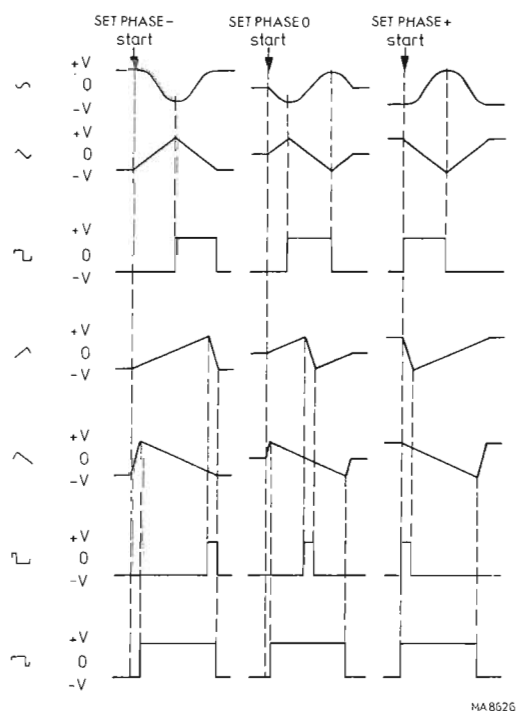

Fig. 5. Starting points for the various signals in the "SINGLE SHOT" mode
The generator is provided with a control device which can produce single periods of a signal with set frequency and signal form. The single shot capability is operative for all signal forms and in the frequency ranges 1 m ... 1k. The starting point can be set continuously between the peak values of the signal (in accordance with Fig. 5) by means of potentiometer SET PHASE.
- Set potentiometer SET PHASE in accordance with Fig. 5. to the required starting point